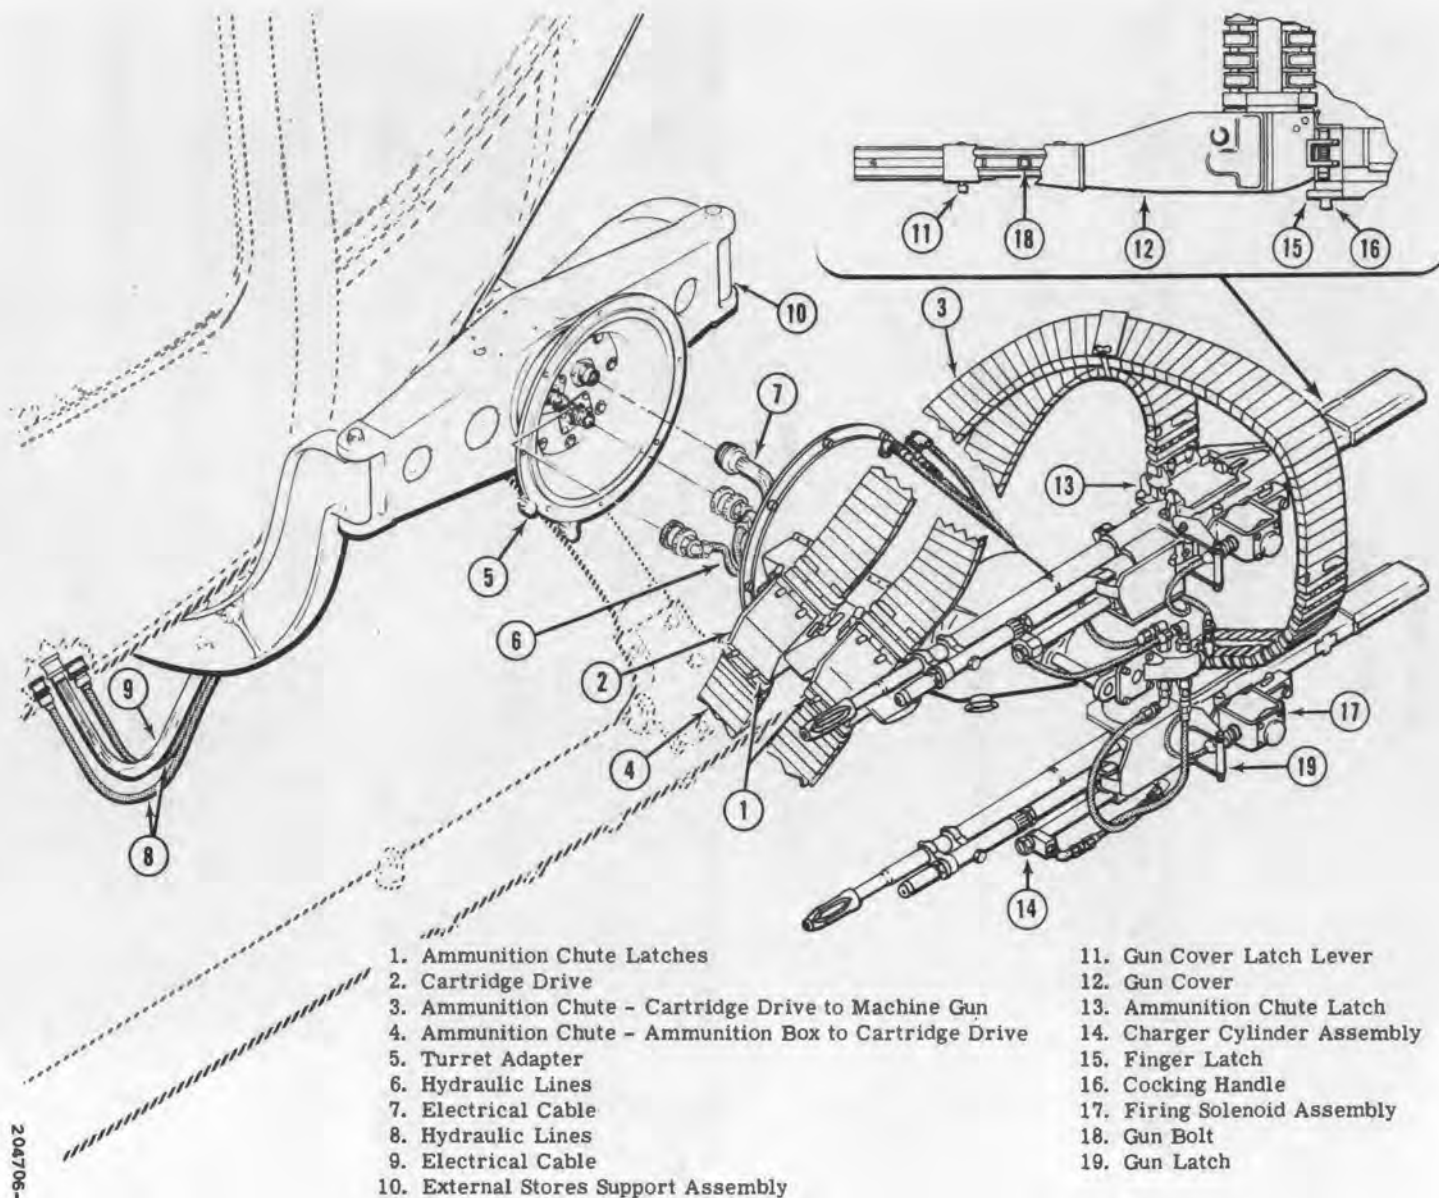
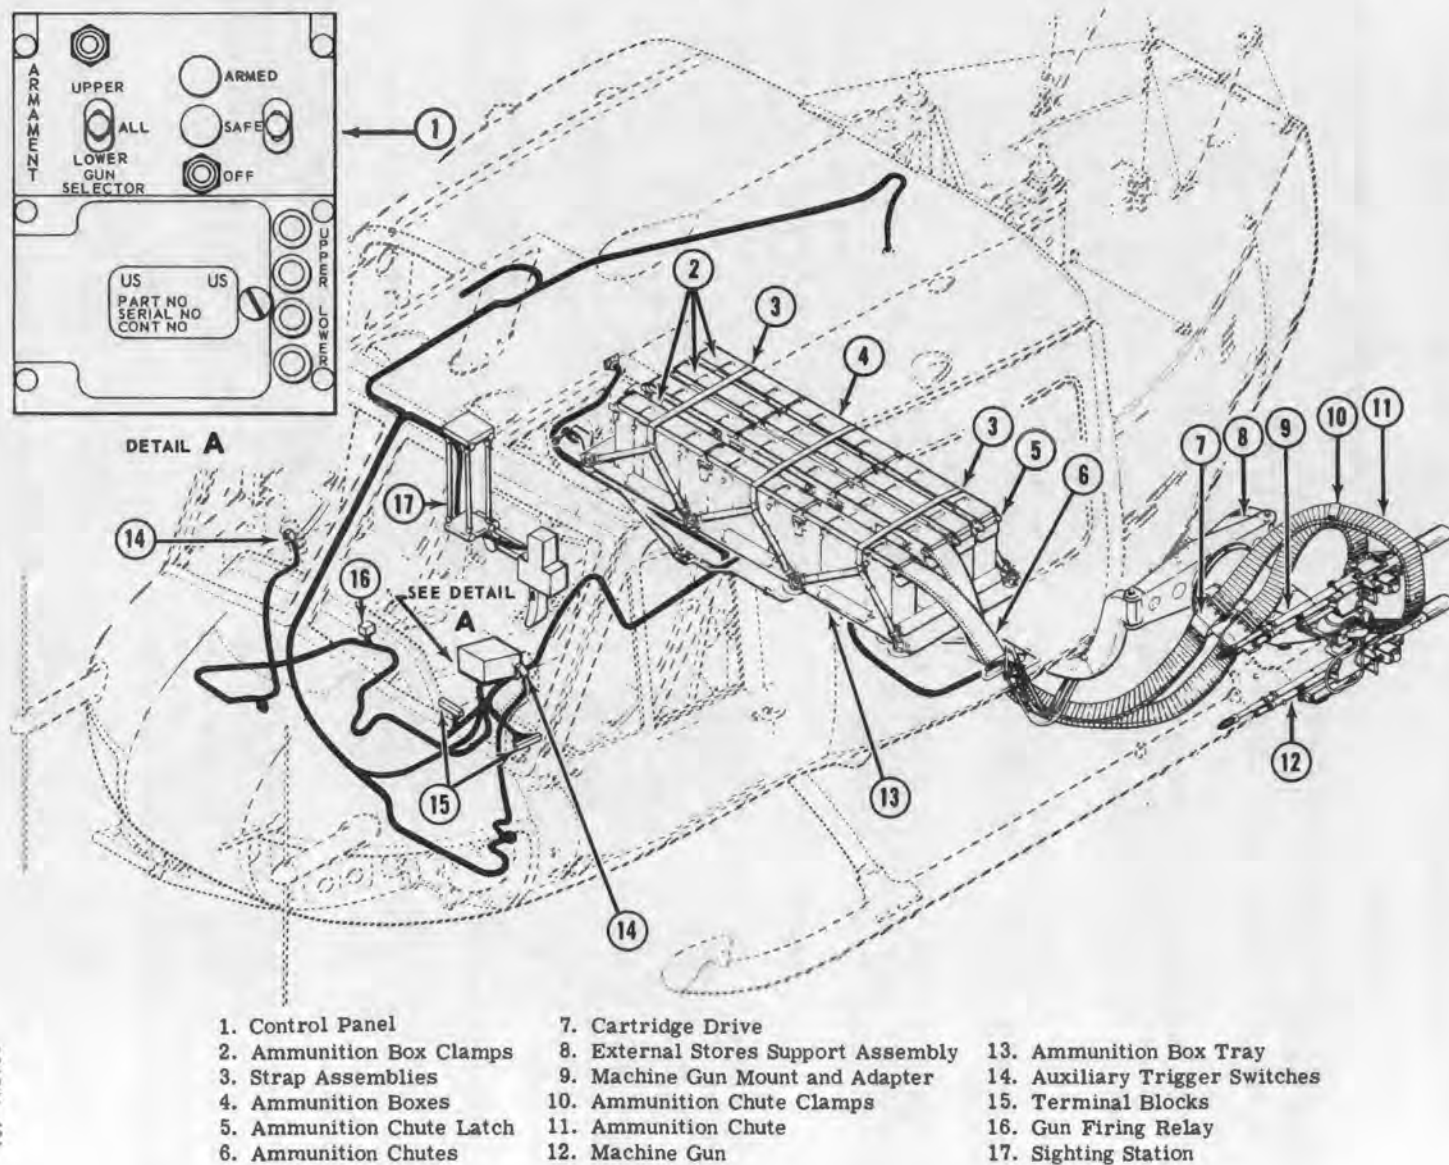

Figure 14-1. 7.62 MM M60C machine gun and adapter
Figure 14-2. Ammunition feed group
14-2. Machine Gun Installation — M6 7.62 MM M60C. (See figure 14-1.) The Quad 7.62 MM, M60C, machine gun installation is designed for use on the Model UH-1B helicopter. It consists, basically of four M6 7.62 MM machine guns, two machine gun mounts equipped with turret adapters (5) which are attached to each of the external stores support assemblies (10). Also included in this installation are the ammunition feed group, the electrical-hydraulic power source, for control and operation of the machine guns, and the sighting station.
14-3. Machine Gun — M6 7.62 MM M60C. (See figure 14-1.) The M6 7.62 MM machine gun is a basic M60 machine gun modified for use with the helicopter. Four guns are available in this installation. Normally, two guns are mounted on each side of the helicopter, one above the other. The gun cover assemblies on the left-hand guns face inboard, towards the helicopter, while those on the right-hand guns face outboard. Ammunition is fed to the guns from above and cartridge cases are ejected downward. The guns are attached to the mount assemblies in such a manner that they can be quickly and readily removed and replaced. All four machine guns are interchangeable and may be installed on either mount assembly. TM 9-1005-243-12.
14-5. Installation — M6 7.62 MM, M60C Machine Gun. (See figure 14-1.) a. Before installing the machine guns on the helicopter perform the following:
14-6. Mount and Adapter — M6 7.62 MM, M60C Machine Gun. (See figure 14-1.) The two gun mount assemblies each support two 7.62 MM machine guns. They also contain necessary equipment for movement of machine guns and ammunition. Each mount is capable of moving the two guns through a vertical arc of plus nine degrees and minus 66 degrees from center line position. They can also move both guns horizontally from 12 degrees inboard to 70 degrees outboard. All four guns move simultaneously, but when either mount moves the attached guns to the 12 degree inboard position a solenoid switch is activated and movement and firing of those guns is automatically stopped. Movement of the guns is controlled by means of hydraulic power. Each gun mount is equipped with an electrically operated cartridge drive which moves the ammunition from the ammunition boxes to the machine guns. The inboard end of each gun mount is attached to a turret adapter, which, in turn, is attached to an external stores support assembly. A hinge at the junction of the mount and adapter permits the mount to be swung to one side for easy access to hydraulic and electrical connectors.
14-7. Removal — M6 7.62 MM, M60C Machine Gun Mount and Adapter. (See figure 14-1.) a. Remove 7.62 MM M60C machine guns. (Refer to paragraph 14-4.)
14-8. Installation — M6 7.62 MM, M60C Machine Gun Mount and Adapter. (See figure 14-1.) Install machine gun as follows:
14-9. Ammunition Feed Group. (See figure 14-2.) The ammunition feed group for the M6 7.62 MM, M60C machine gun, consists basically, of eight ammunition chutes, twelve ammunition boxes and an ammunition box tray equipped with three hold-down strap assemblies. Four ammunition chutes, two on each side of the helicopter, connect the top of the cartridge drive assemblies to the machine guns. A comparable installation connects the ammunition boxes to the bottom of the cartridge drive assemblies. The chutes connecting the ammunition boxes to the bottom of the cartridge drive assemblies pass through an opening in the cargo floor and the fuselage. The ammunition boxes are mounted on the ammunition box tray, located in the helicopter cargo area, and are held firmly in place by three hold-down strap assemblies. The sheet metal ammunition boxes are arranged in three groups of four boxes each. Each box is capable of holding approximately 450 rounds of ammunition, with a total capability of 5434 rounds, weighing 353.21 pounds. The ammunition box tray is attached to the helicopter cargo area floor by means of 16 screws. The three hold-down strap assemblies secure the ammunition boxes and tray to footman's loops in the cargo area floor.
14-10. Removal — Ammunition Feed Group. (See figure 14-1 and 14-2.) Remove ammunition chutes, boxes and trays as follows:
b. Depress the spring loaded ammunition chute latches (1, figure 14-1) which connect the chutes (3, figure 14-1) to the top of the cartridge drives (2, figure 14-1) and disengage chutes from cartridge drives.
c. Depress the spring loaded ammunition chute latches (1, figure 14-1) which connect the chutes (4, figure 14-1) to the bottom of the cartridge drives (3, figure 14-1) and the ammunition boxes. Withdraw chutes through opening in the cargo floor and fuselage.
d. Release three ammunition box hold-down strap assemblies (3, figure 14-2) at lower, forward side of ammunition box tray (13, figure 14-2). Remove strap assemblies (3, figure 14-2) and ammunition box clamps (2, figure 14-2).
f. Remove 16 screws attaching ammunition box tray (13, figure 14-2) to cargo area floor and remove tray from helicopter.
14-11. Installation — Ammunition Feed Group. (See figure 14-2.) Install ammunition tray and boxes as follows:
(1) Unsnap clamps (2) on top of ammunition box covers and remove covers.
(2) Fold the allowable maximum quantity of ammunition into boxes with links up, single-link end first. Projectiles must point to the left for feed to the left-hand machine guns and to the right for feed to the right-hand guns.
(3) Position the twelve ammunition boxes (4) on the ammunition box tray (13).
(4) Connect the ammunition belts together at adjoining boxes.
(5) Crimp over the trailing link hanging out of the end of the third box in each row with a pair of pliers. Inspect all ammunition to make sure that it is placed properly in all boxes.
(6) Install covers on all ammunition boxes.
c. Position ammunition box clamps (2). Hook three hold-down strap assemblies to footman's loops along aft side of ammunition box tray (13) and position snugly over ammunition boxes. Position other ends of strap assemblies footman's loops forward of ammunition box tray (13). Tighten and secure hold-down strap assemblies (3).
d. Position one end of ammunition chutes (11) to top of cartridge drives (7). Depress ammunition chute latches (1, figure 14-1) and connect chutes to drives. Allow opposite ends of these two chutes to hang over the gun mount assembly.
e. Position one end of ammunition chutes (4, figure 14-1) to bottom of cartridge drives (5, figure 14-2). Depress ammunition chute latches (1, figure 14-1) and connect chutes to drives. At a short distance behind the gun mount assembly, grasp the two ammunition chutes and position the lower chute on top of the upper chute. Secure in this position with an ammunition chute clamp approximately midway between the gun mount assembly and the opening in the helicopter fuselage.
f. Extend free ends of left-hand ammunition chutes through the opening in the helicopter fuselage and cargo area floor into the cargo area. Connect the lower machine gun chute to the end box of the second row of ammunition boxes and the upper machine gun chute to the end box of the first row of ammunition boxes. (See figure 14-2.)
14-12. Control Panel. (See figure 14-2.) The M6 7.62 MM, M60C Machine Gun Installation control panel is located in the lower left-hand corner of the instrument pedestal between the pilot and copilot. It contains the "OFF-SAFE-ARMED" switch, a gun selector switch, an "ARMED" (red) safelight, a "SAFE" (green) light and necessary fuses, amplifiers and resistors.
14-13. Removal — Armament Control Panel Assembly. (See figure 14-2.) a. Make sure that the helicopter master battery switch is in the "OFF" position and that external power is disconnected.